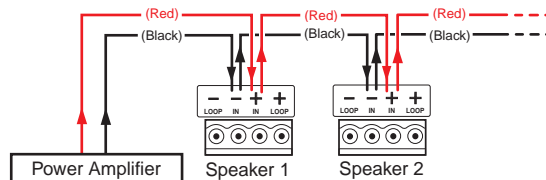

Figure 34. Wiring Multiple Speakers in Parallel
- **Wiring Multiple Speakers in Parallel:** Connect the wires to the captive screw connectors of the speakers, as shown in figure 34. Be sure to tighten the screws.